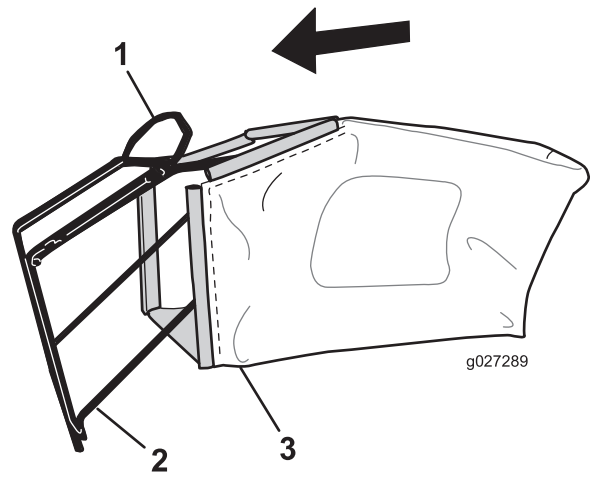

Figure 8
1. Slip the grass bag over the frame as shown in Figure 8.